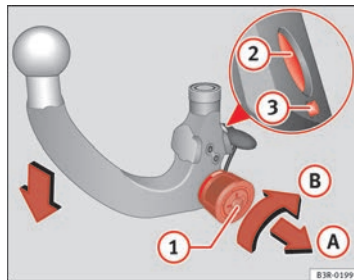

Fig. 157 Removable towing bracket: Setting the spring mechanism to the "ready" position
- Insert the key **1** ⇒ page 199, fig. 157 in the lock on the knob and turn it towards the red marking.